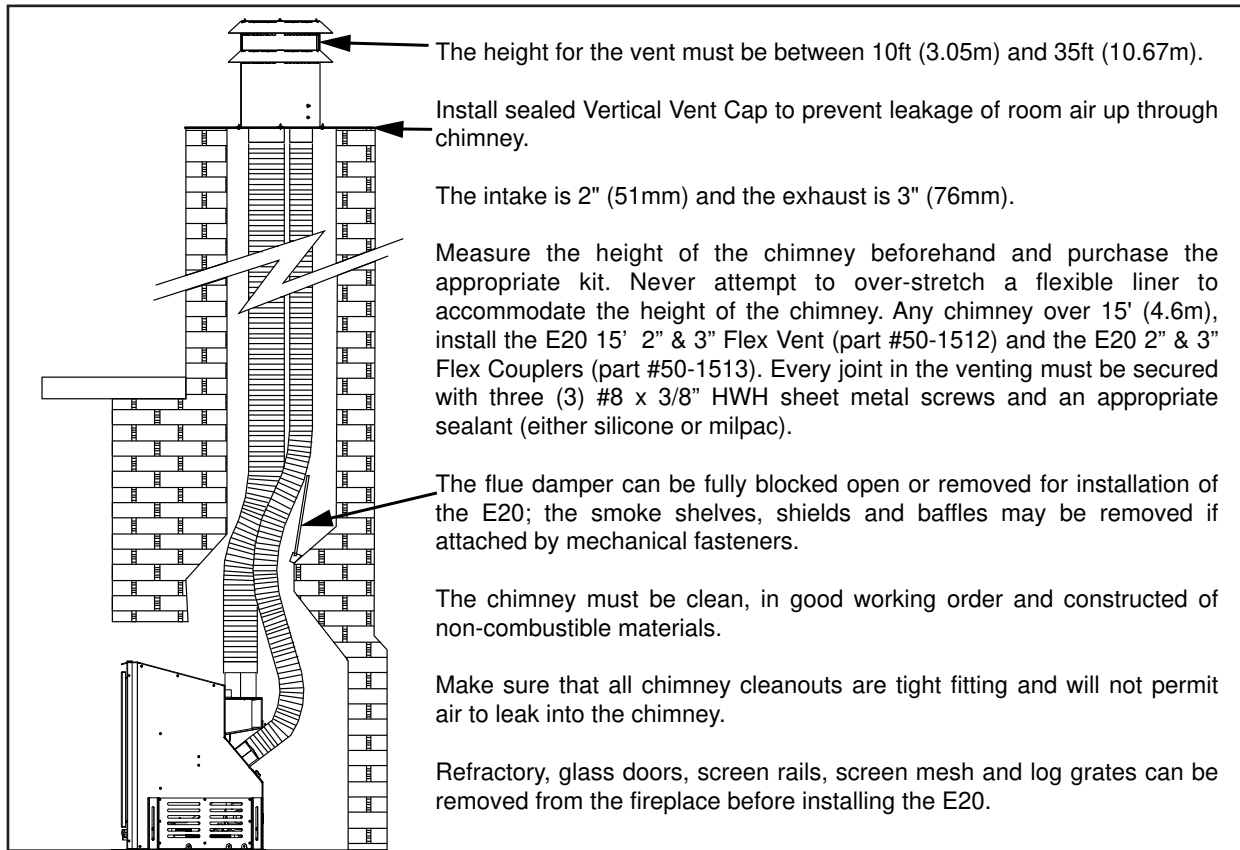

Figure 31: Installation of E20 DV
1. Plan your installation and clearances to combustibles. The E20 may be installed and vented into any solid fuel fireplace that has been installed in accordance with the National, Provincial/State and local building codes and has been constructed of non-combustible materials. Also refer to the INITIAL INSTALLATION - PREPARING YOUR E20 FOR INSTALLATION and CLEARANCES TO COMBUSTIBLES sections. Refer to Figure 31 throughout installation.